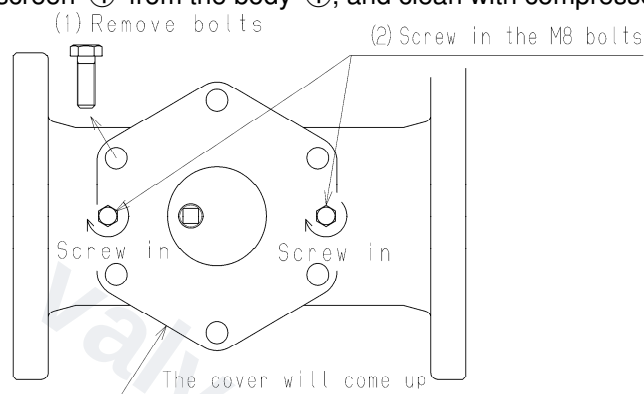

Fig.7 Removal of cover for Model SU-50・50H (Above diagram)
- (1) Remove bolts ⑦.
- (2) Remove cover ②. In case you cannot remove the cover, screw in M8 bolts in the two holes on the cover until the cover comes up. (See Fig. 7), and then remove the cover. Remove the M8 bolts after removing the cover.
- (3) Remove screen ④ from the body ①, and clean with compressed air and cleaning agents.